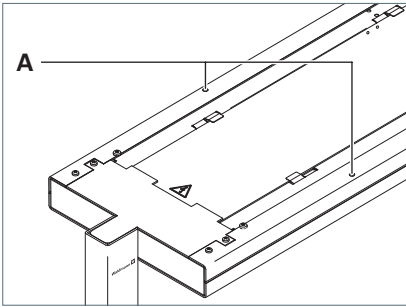

Fig. 22: Adjusting the light head
- To lift the light head, rotate the adjusting screws **A** counterclockwise, see Fig. 22.